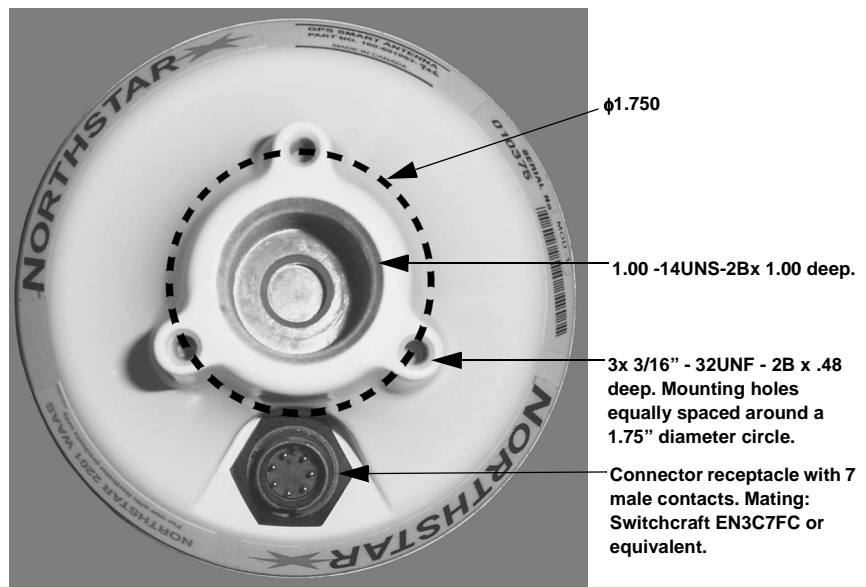

Figure 9: Mounting the 2201 on a flat surface (viewed from below)
1. Using the three screws and washers provided, mount the 2201 onto the flat surface using three holes on a 1.75-inch diameter circle (see Figure 9 below).